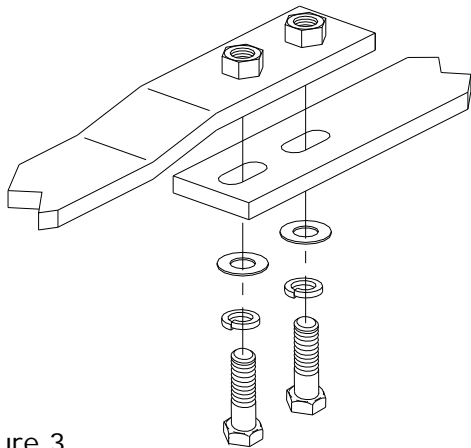

Figure 3
3. Connect the Post Holders in the center, positioning the 1/2" x 1-1/2" bolts, lock washers and flat washers from the bottom, up, finger tight. See Fig. 3 on Page 13.
4. Connect the Post Holders in the center, positioning the 1/2" x 1-1/2" bolts, lock washers and flat washers from the bottom, up, finger tight. See Figure 3, Pg. 13.